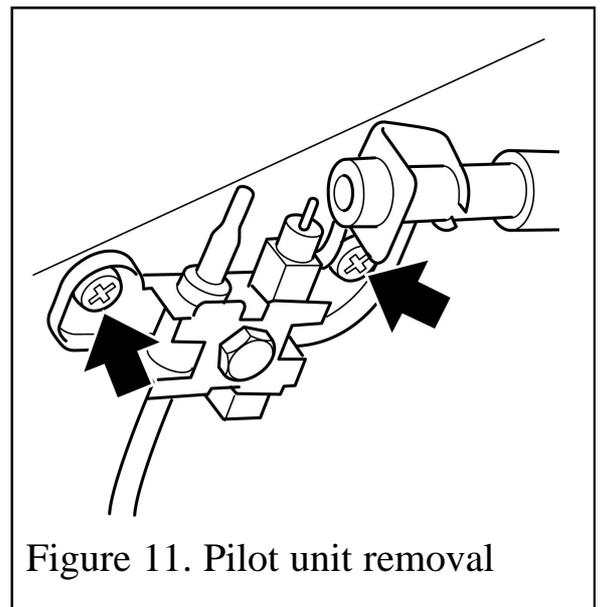

Figure 11. Pilot unit removal
5. Remove the two screws securing the pilot unit (See figure 11).